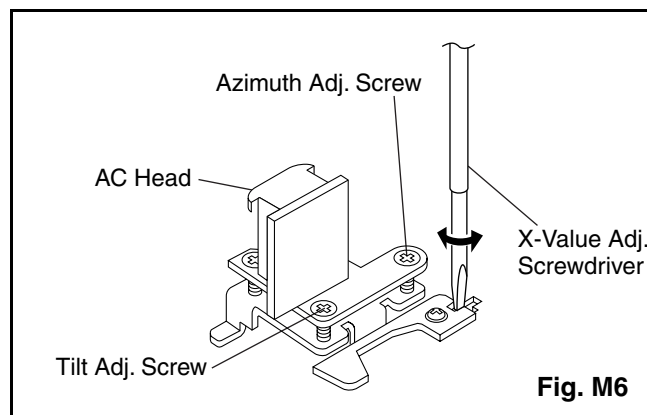

Fig. M6
4. If creasing or snaking is apparent, adjust the Tilt Adj. Screw of the AC Head. (Fig. M6)
4. Use the X-Value Adj. Screwdriver so that the PB FM signal at J189 (PB-C-MONI) is maximum. (Fig. M6)
3. Adjust Azimuth Adj. Screw so that the output level on the AC Voltmeter or the waveform on the oscilloscope is at maximum. (Fig. M6)